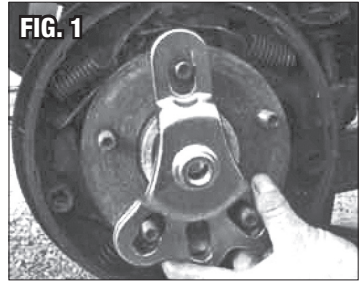

FIG. 2
- Add Locknut to threaded portion of Slide Shaft **(Fig 2)**.
- Add Locknut to threaded portion of Slide Shaft (Fig 2).
- Add Locknut to threaded portion of Slide Shaft (**Fig 2**).